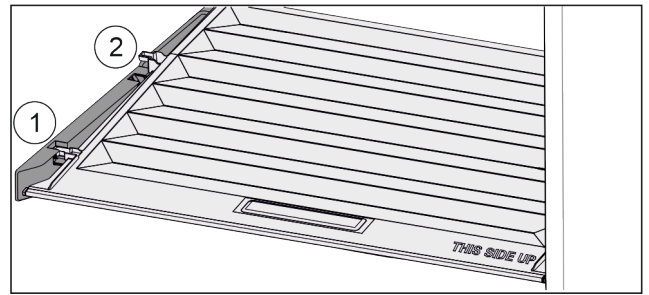

Fig. 138
- Pull the lid up at the front in the retaining parts to the opening Fig. 138 (1).
- Lift from the back and pull it up and out Fig. 138 (2).